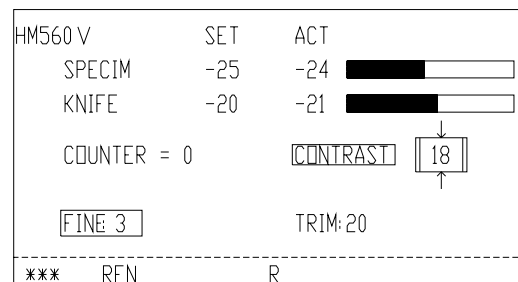

Fig. 52
- Then the word CONTRAST is shown on the display (fig. 52.).